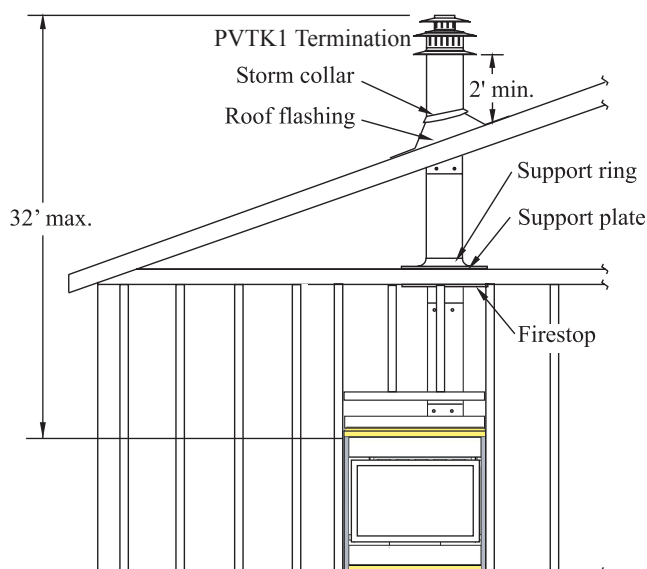

Figure 10. Top vent, Roof mounted termination with no offset in vent run.
- The Vertical termination must be a minimum 2' higher than where the termination exits the roofing materials, (asphalt shingles, cedar shakes, etc). This distance should be measured from the high side of the roof slope where the flue flashing intersects the roofing materials. (see Figures 10 to 10c).